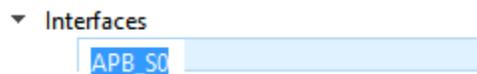

Figure 3.24. Rename Interface
- Double click **NewInterface1** to rename interface (Figure 3.24).